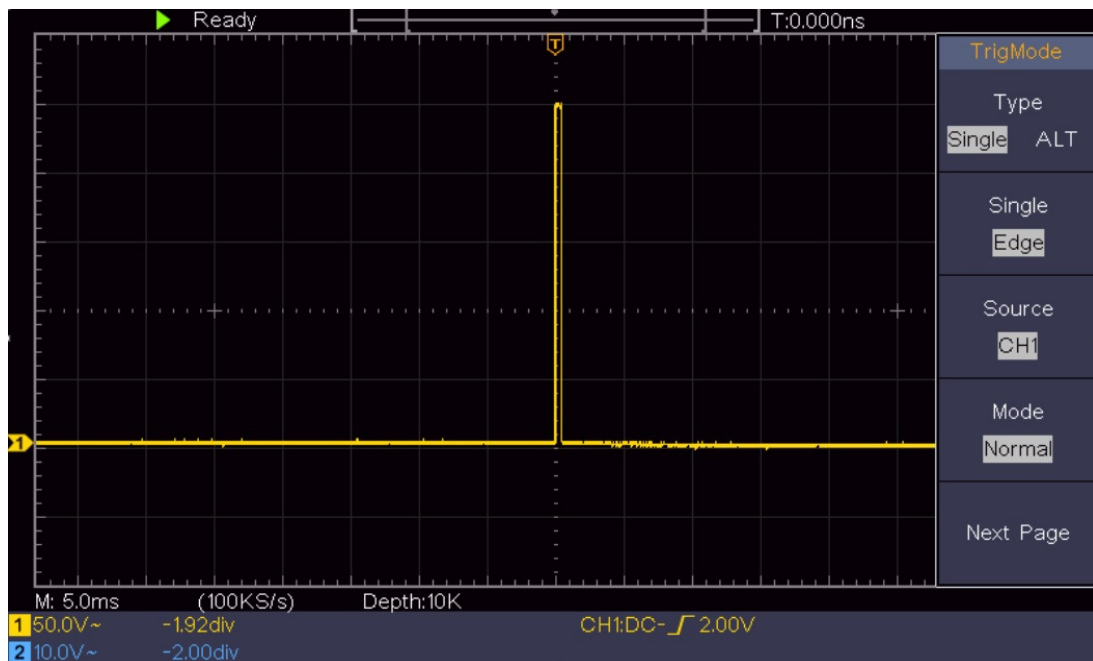

Figure 6-3 Capturing a Single Signal
- (2) Adjust the **Vertical Scale** and **Horizontal Scale** knobs to set up a proper vertical and horizontal ranges for the signal to be observed.
- (3) Push the **Acquire** button to display the right menu.
- (4) In the right menu, select **Acqu Mode** as **Peak Detect**.
- (5) Push the **Trigger Menu** button to display the right menu.
- (6) In the right menu, select **Type** as **Single**.
- (7) In the right menu, select **Single** as **Edge**.
- (8) In the right menu, select **Source** as **CH1**.
- (9) In the right menu, press **Next Page**, select **Coupling** as **DC**.
- (10) In the right menu, select Slope as  (rising).
- (11) Turn the **Trigger Level knob** and adjust the trigger level to the roughly 50% of the signal to be measured.
- (12) Check the Trigger State Indicator on the top of the screen, if it is not Ready, push down the **Run/Stop** button and start acquiring, wait for trigger to happen. If a signal reaches to the set trigger level, one sampling will be made and then displayed in the screen. By using this approach, a random pulse can be captured easily. For instance, if we want to find a burst burr of high amplitude, set the trigger level to a slightly higher value of the average signal level, push the **Run/Stop** button and wait a trigger. Once there is a burr occurring, the instrument will trigger automatically and record the waveform during the period around the trigger time. By turning the **Horizontal Position** knob in the horizontal control area in the panel, you can change the horizontal triggering position to obtain the negative delay, making an easy observation of the waveform before the burr occurs (see Figure 6-3).